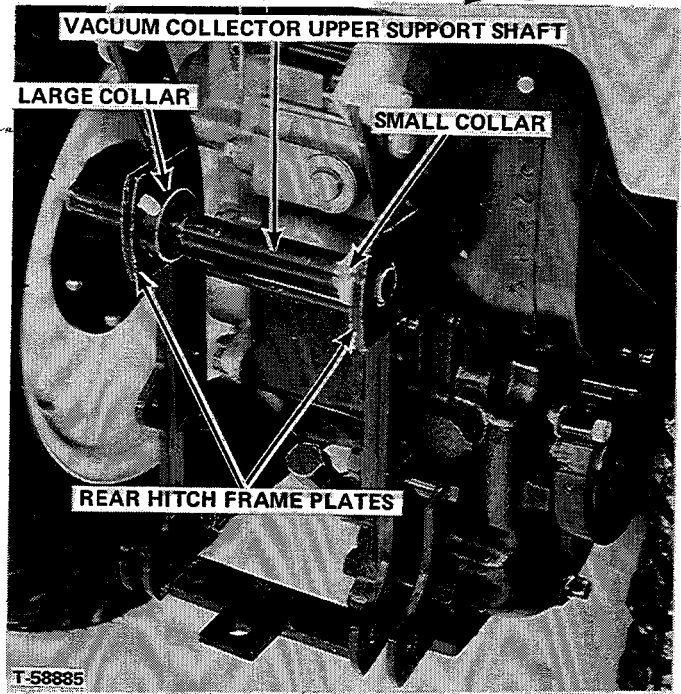

FIGURE 10
2. If tractor is not equipped with a rear lift attachment install the vacuum collector upper support shaft and set collars as shown in Figure 10. Locate upper support shaft right hand end flush with outside of right hand rear hitch frame plate.